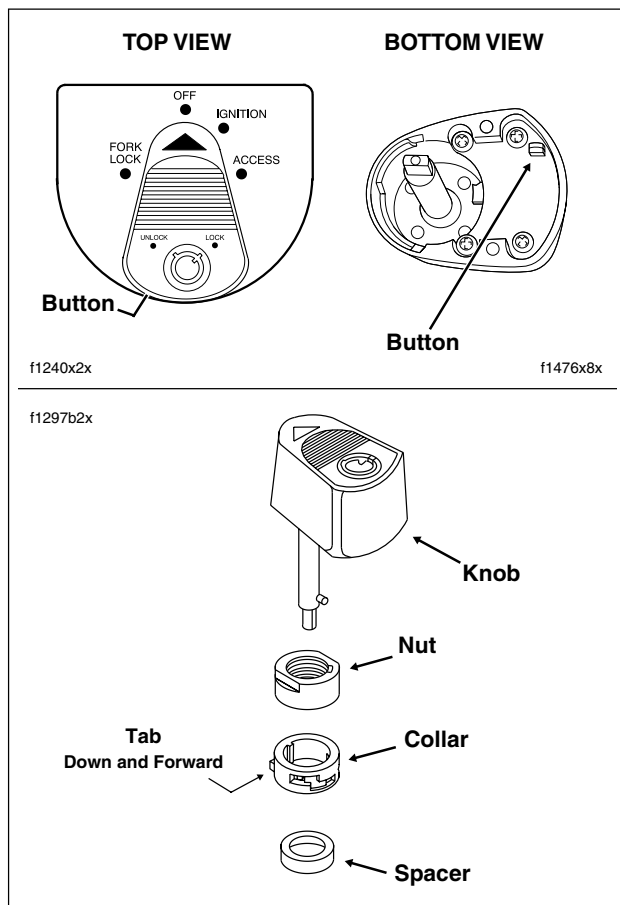

Figure 2-166. Ignition Switch Knob (Domestic)
- (left side) with a small screwdriver, push key down and turn an additional 60 degrees in a counter-clockwise direction. Lift and remove knob. See upper frame of Figure 2-166.
- b. Using a 7/8 inch wrench on flats, loosen switch nut and remove from threaded post of ignition switch housing. Remove collar and spacer. See lower frame of Figure 2-166.
- b. Slide spacer over threaded post of ignition switch housing until it contacts switch position plate. Slide collar over post with the tab side down (and forward). Install nut, and using a 7/8 inch wrench on flats, tighten to 50-70 **in-lbs** (5.7-7.9 Nm). See lower frame of Figure 2-166.